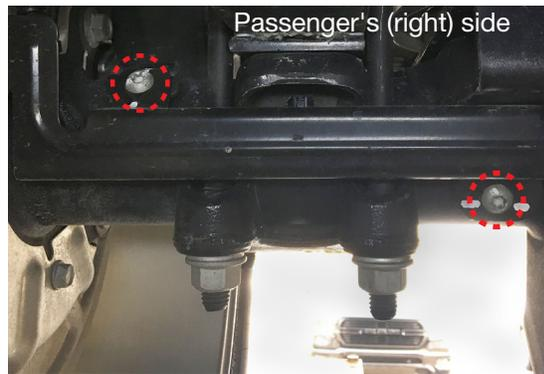

Fig. 8
- Using a T40-sized Torx bit, remove the Torx head screws on both wire harness guards located on the front side of the axle. Pry out the harness retainers and remove the guards on both sides. Set the screws and the guards aside to be re-installed later (Fig 8).